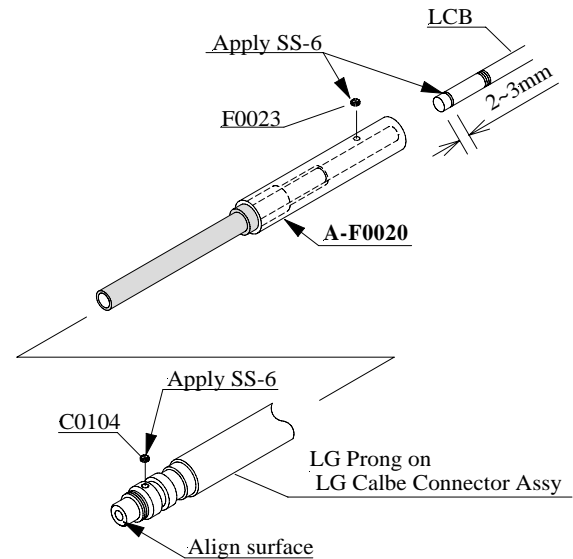

Fig.5-3-1
- 2) Apply small amount of silicone sealant (SS-6/RM2006) on the around of metal pipe of the LCB as shown in Fig.5-3-1.